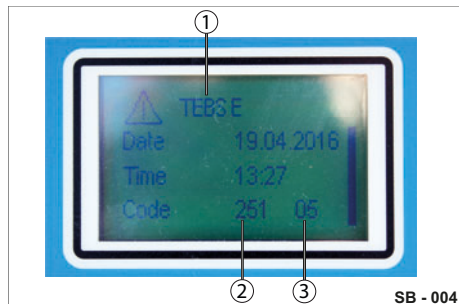

Abb. 9 Menu message
- Read and evaluate the message in accordance with the displayed error type (Abb. 9/ 3).